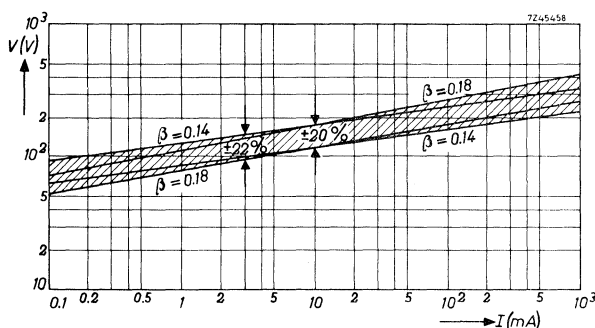

Fig. 10 Spread of voltage/current characteristic due to β -tolerance.
According to Eq. (1) it is possible to specify the electrical characteristics of a varistor by giving its C and β -values. The advantage of this specification is that only two parameters are used. The disadvantage is, however, that due to the inevitable tolerances on the β -values, the spread in voltages at low currents (in the working area) becomes very large. It is for this reason that the method of specifying by the C -value defined at 1 A is abandoned and we now specify the voltage across the varistor at currents which lie in the working area (1, 10 or 100 mA instead of 1 A). In this way it is possible to supply varistors which have much closer tolerances in the area where they are used, see Fig. 10.
Standard varistors are specified with a certain tolerance on voltage and a spread on β -value. It can be seen in Fig. 10 that due to the spread in β -value the tolerance on voltage may increase at currents other than the specified current at which the varistor is measured.